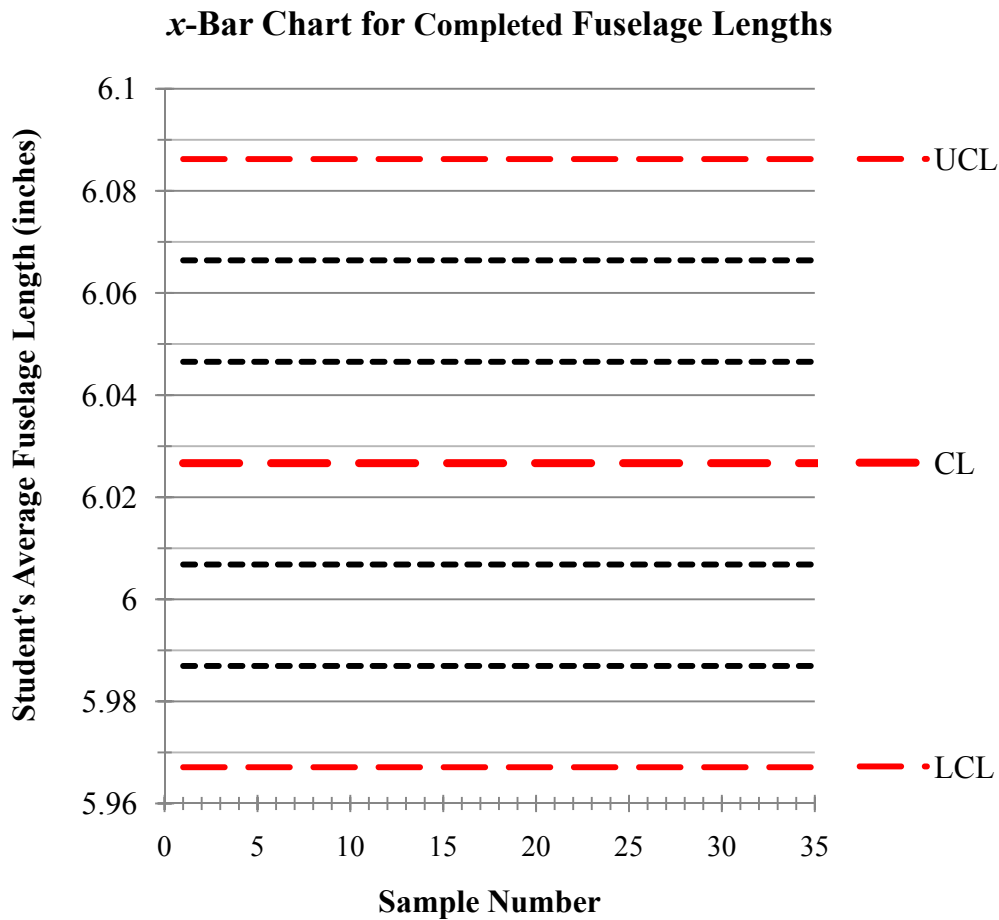

Figure 16.2.2: The \bar{x} -Chart for the average sample lengths of completed fuselages from the Boeing 787 model activity
Just as Bob and Molly have an \bar{x} -Chart to evaluate the variability between samples, there is a \bar{x} -Chart for the modeling of completed fuselage assembly. Notice in Figure 16.2.2, there are six zones as well as the Upper Control Limit (UCL), Center Line (CL), and the Lower Control Limit (LCL).
- Q2. Using the \bar{x} -Chart in Figure 16.2.2 (see Worksheet 4), plot the class averages of the sample lengths of completed fuselages one at a time and determine if the class's assembly process is ever out of statistical control. If it is, at what sample in the assembly process does this occur? Why do